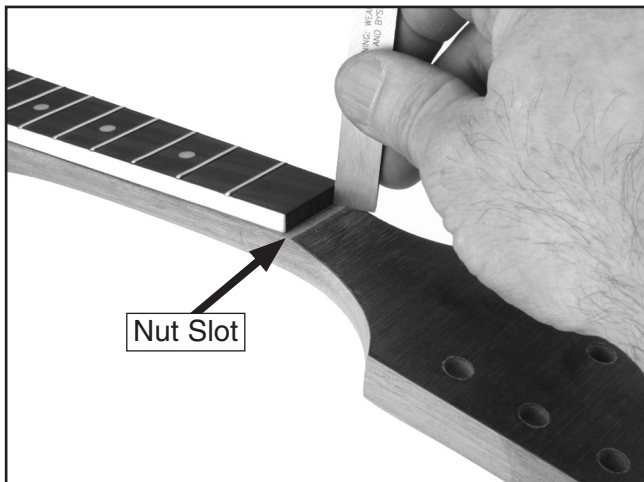

Figure 22. Example of cleaning out the nut slot.
1. Use a chisel to carefully scrape all of the finish out of the nut slot (**Figure 22**). DO NOT remove any wood from the nut slot.